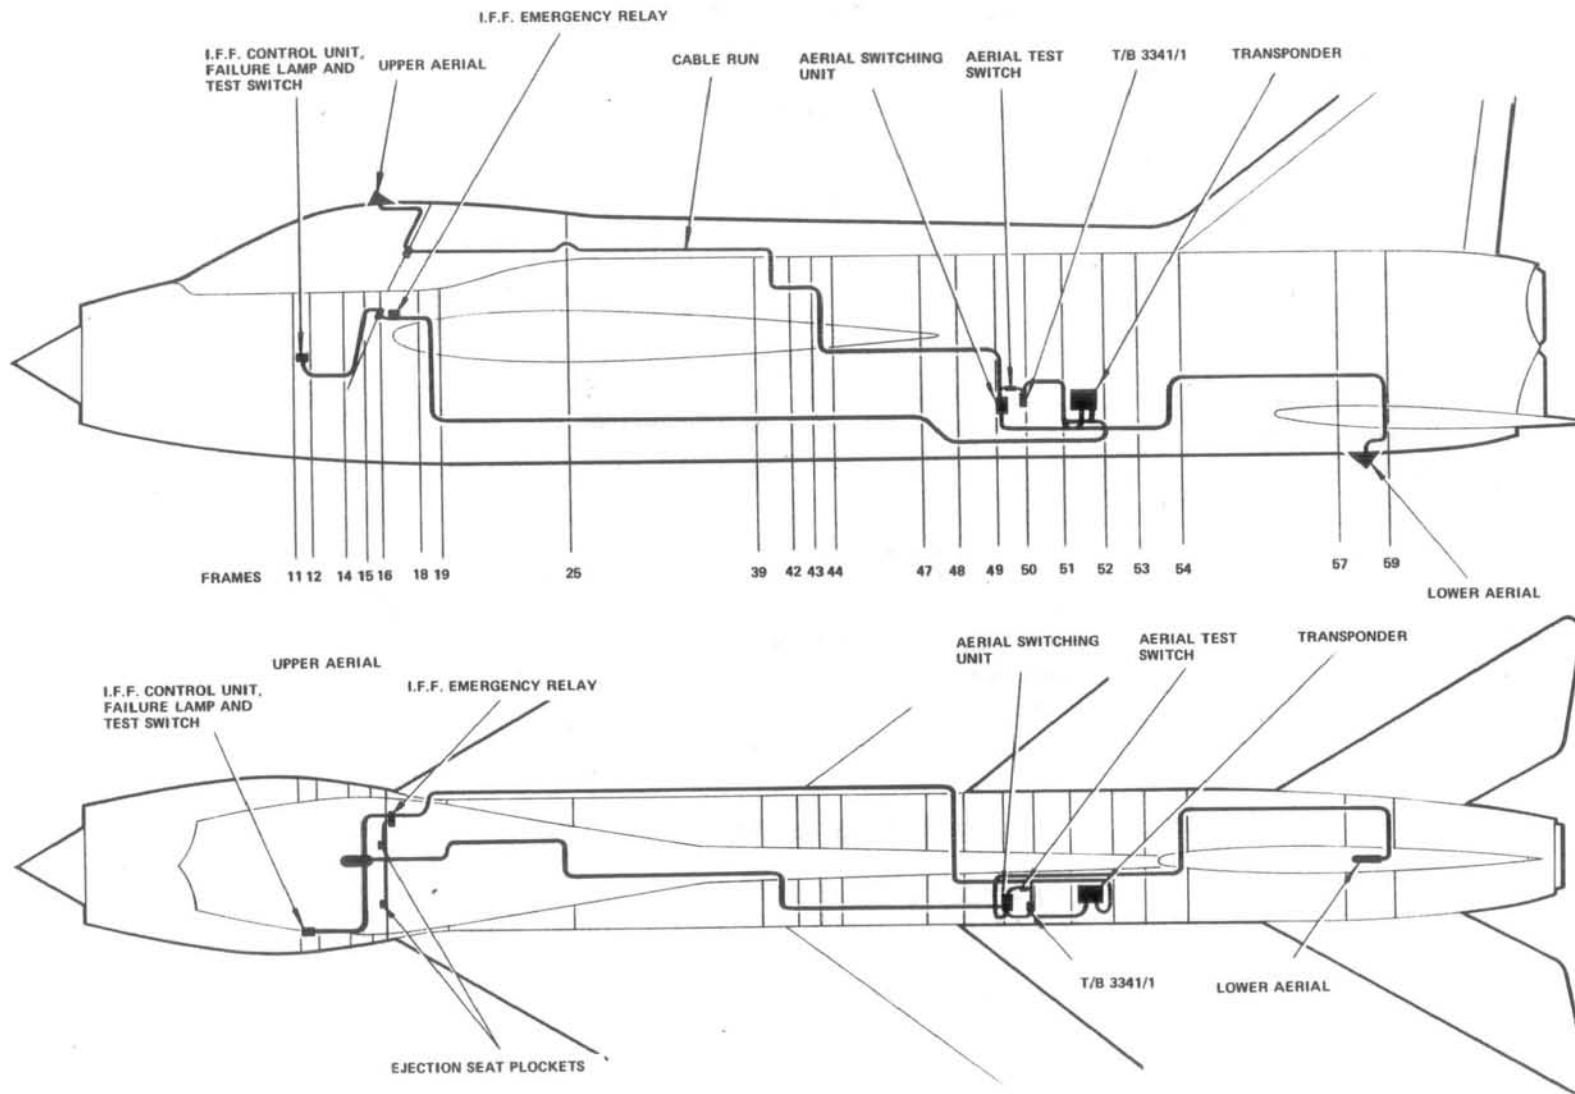
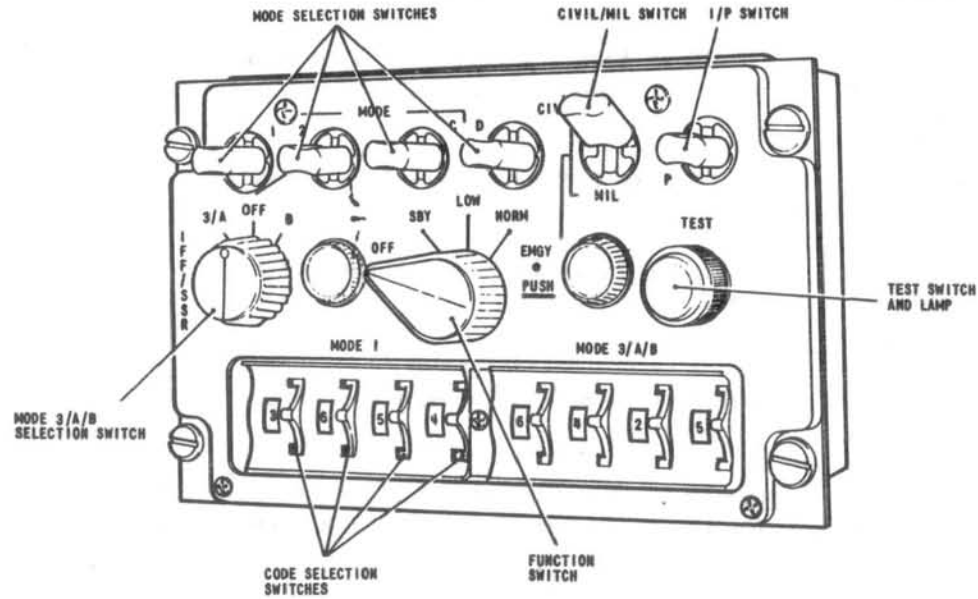
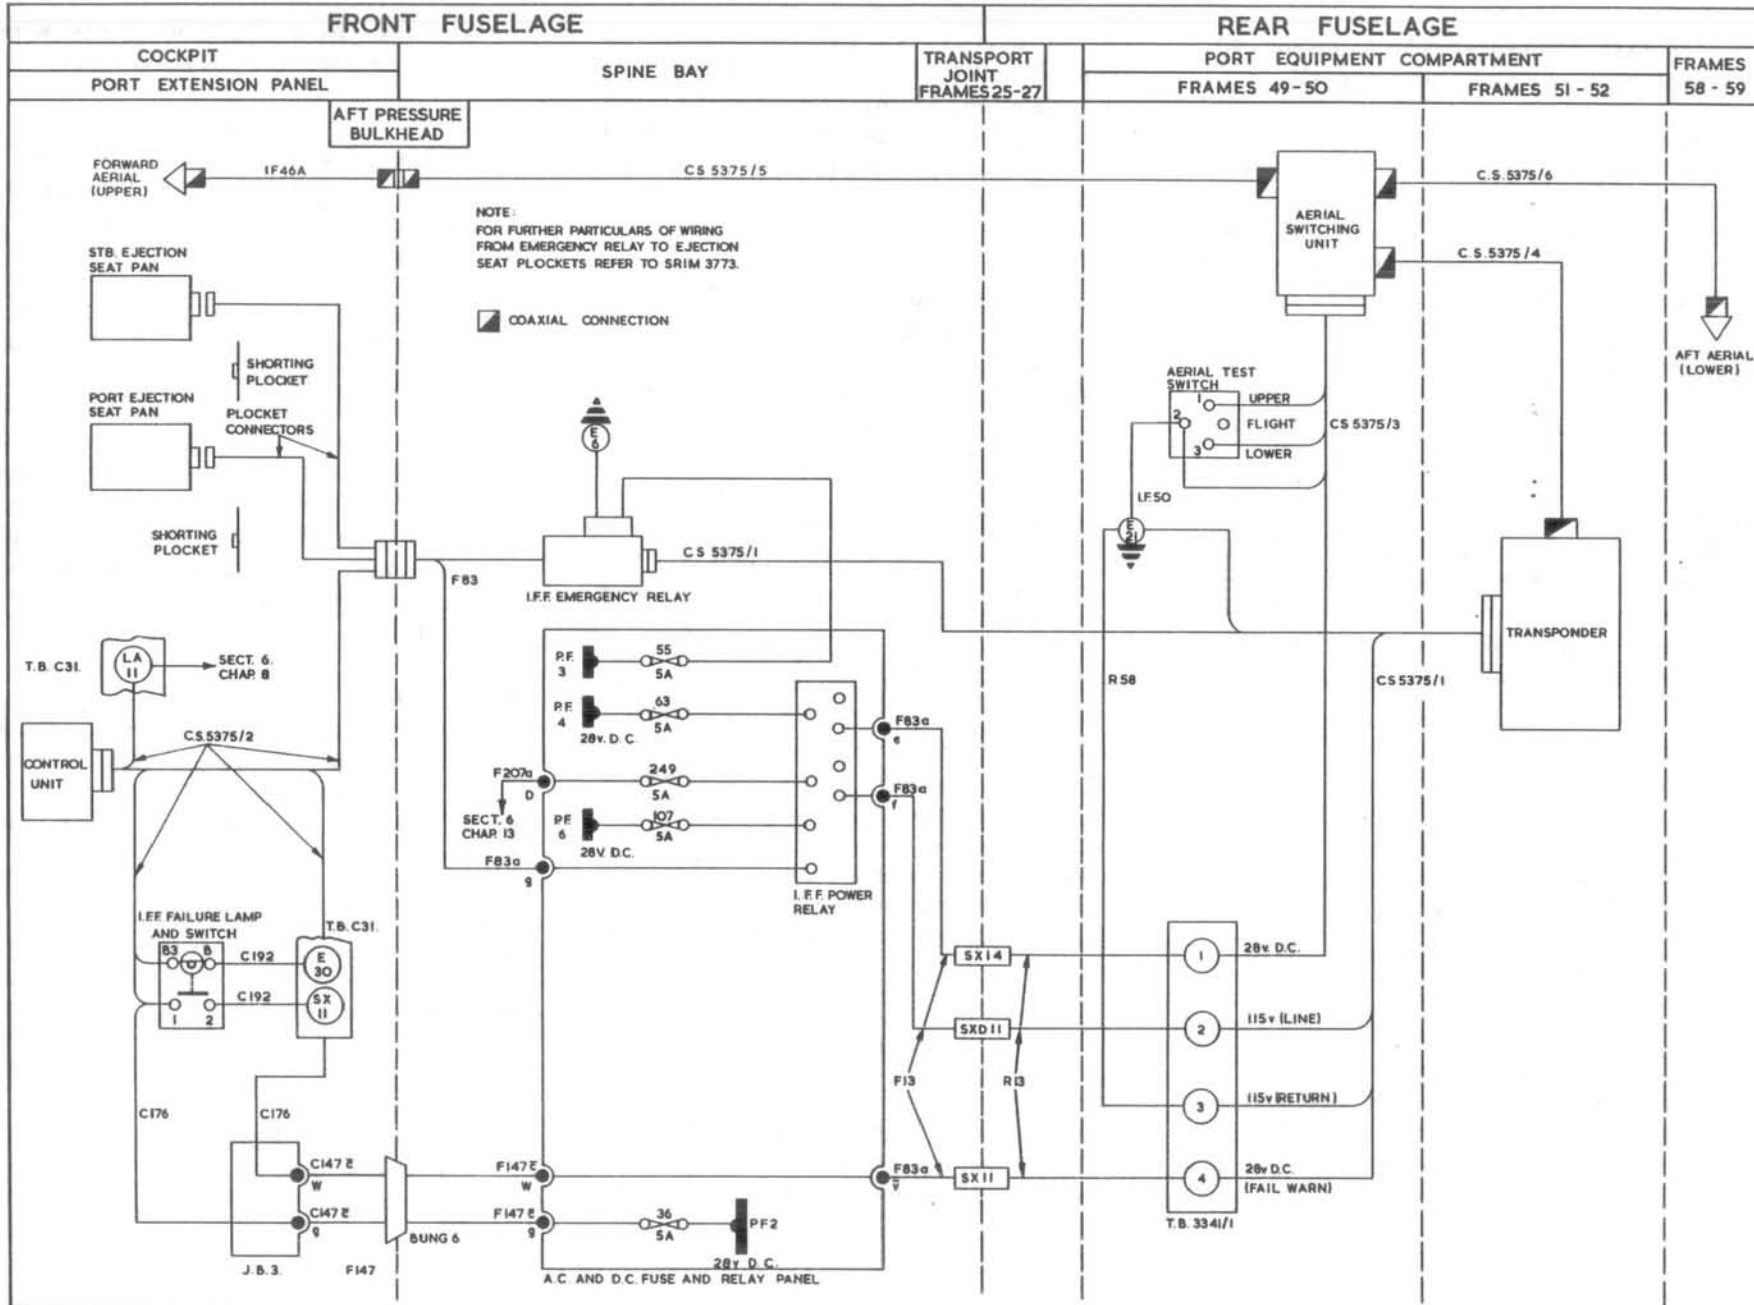

FIG. 1. I. F. F./S. S. R. 1520 INSTALLATION (A.R.I. 23134/3)
FIG.2. MAIN UNITS
FIG. 3. I.F.F./S.S.R. 1520 INSTALLATION (A.R.I. 23134/3)
1. The I.F.F. secondary surveillance radar system (I.F.F./S.S.R.) identifies, as friendly or hostile, an aircraft detected by the interrogating ground radar. The I.F.F./S.S.R. 1520 installation (A.R.I.23134/3) is the airborne part of the system. The system incorporates a means of automatically switching the transponder to the emergency mode of operation when either of the crew ejects from the aircraft. The facility does not change the method of operation of the I.F.F./S.S.R. system. Information on the main units of the system plus the complete functioning and operating data will be found in A.P.114J-0101-16. Fig.1 shows the location of each unit in the aircraft and fig.3 shows the interconnection detail. Location access and the relevant Air Publication references can be found in Table 2. Illustrations of the main items can be found in fig.2.
10. All equipment and cables should be examined for security and damage at the intervals laid down in the Master Servicing Schedule. The upper I.F.F. aerial connector should be routed and secured as detailed in A.P.101B-1000-5A3A, Section 1, Chapter 1, S.P.4B, fig.2. Functional tests should be carried out at the prescribed intervals, if the serviceability of the installation is suspect, and after rectification of a defect. The instructions for setting up, servicing and testing of the installation, along with the test equipment required, can be found in A.P. 114J-0101-16.